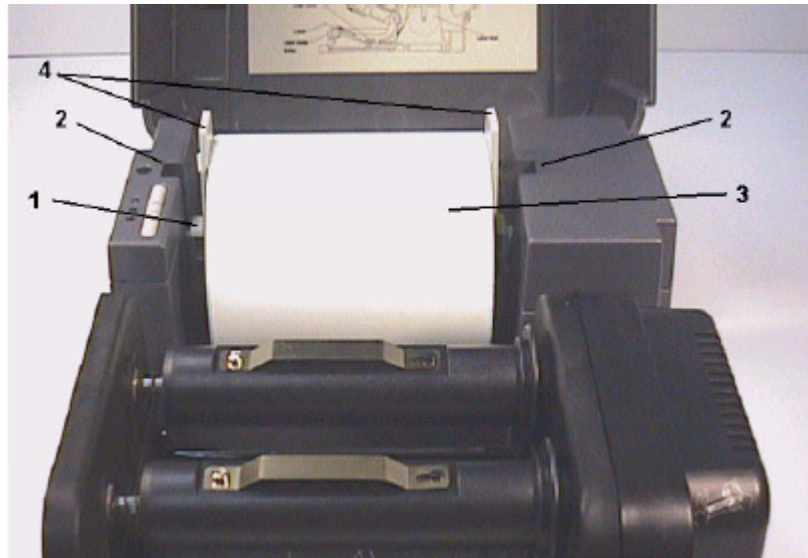

Figure 6. Inserting label supply roll into label roll mount
- Disengage the printer carriage by pulling the grey printer carriage release lever on the left side of the platen (*see figure 6*).